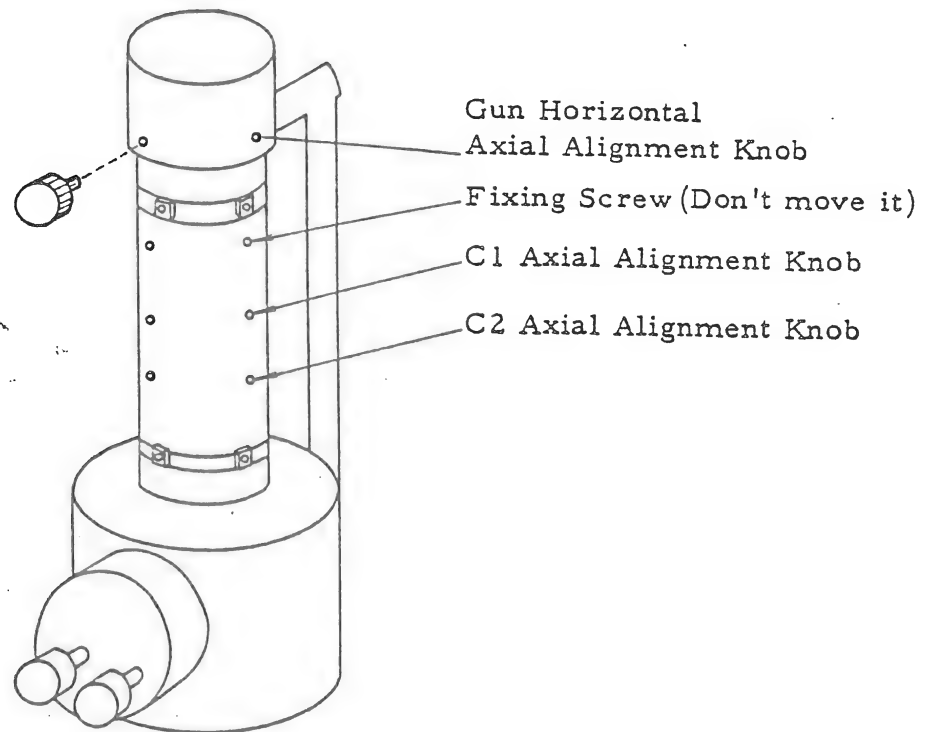
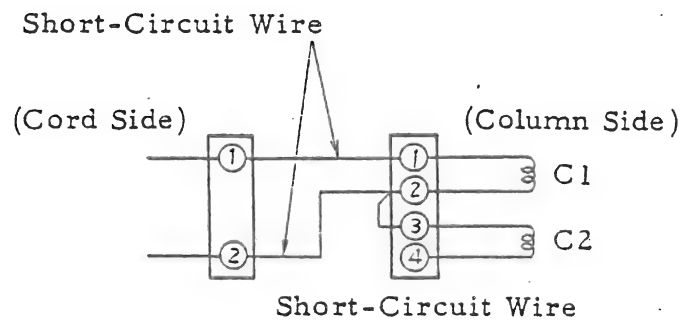

Fig. 7-1 Axial Alignment Knob Layout
Fig. 7-2 When Operating C1 Only
- (1) For applying the accelerating voltage, see the instruction manual.
- (2) The condenser axial alignment should be done by servicemen only.
- (3) Detach the condenser exciting current connector from the column.
- (4) Set the SE switch to OFF and set the MAG to the minimum magnification mode.
- (5) Adjust the electron gun horizontal alignment knob (See Fig. 7-1.) so that the maximum intensity can be obtained with the electrical gun-alignment control knob set to about the midpoint.
- (6) Bring a characteristic specimen surface (hereinafter referred to as "object") to the CRT center and focus it.
- (7) Flow the first condenser lens current (for independently flowing the current to the first and second condenser lenses, see Figs. 7-2 and 7-3 as well as description), and set the condenser lens current selector switch to 4 ~ 5.
- (8) If the object set in step (6) is deviated from the CRT center under the condition in step (7), adjust the first condenser lens (hereinafter referred to as C1) axial alignment knob to bring the object to the CRT center.
- (9) Turn off the C1 current, and flow the second condenser lens (hereinafter referred to as C2) current.
- (10) If the object is deviated from the CRT center under the condition in step (9), adjust the C2 axial alignment knob to bring the object to the CRT center.
- (11) Repeat steps (7) ~ (10) for axial alignment.
- (12) Reset the condenser lens exciting current connector as before, and turn on the SE switch.
- (13) If the object largely escapes from the CRT center, repeat steps (7) ~ (12) until the escape is minimized.